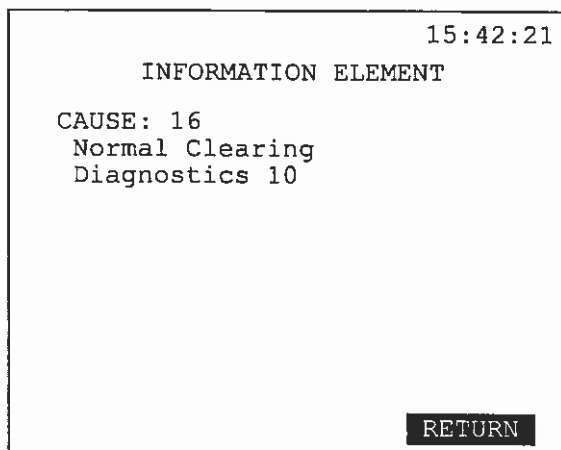

Figure 53 Information Element Screen
- Cause Value: Conveys diagnostic information to the RDT or IDT as to why the call failed. Refer to Table 6 for a listing of the possible GR-303 Cause Values and their meanings. Cause Values are often contained in an Information Element screen. Press INFO (F3) to bring up the Information Element screen, as in Figure 53.